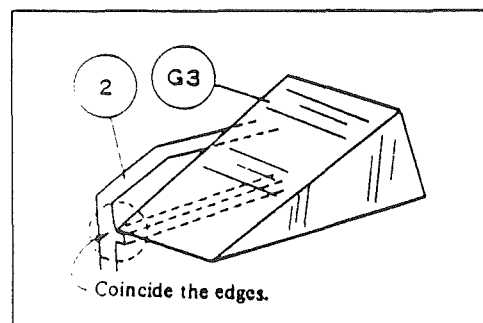

Fig. 16
- 1) Insert the lens chamber (3) (with G1 and G2 inside, to be positioned as  thicker), and screw in retaining ring (4). Applying adhesive No. 350, attach (4) to (3) after adjusting the optical axis (P. 40).
- 2) Assemble prism (G3) on the mount (2), and fix it with plastic screw (6), temporarily. Set the prism in such a position as shown in Fig. 16, that the end surface of the prism holder coincides with the bottom edge of the 30° surface of the prism (G3). (Fig. 16)